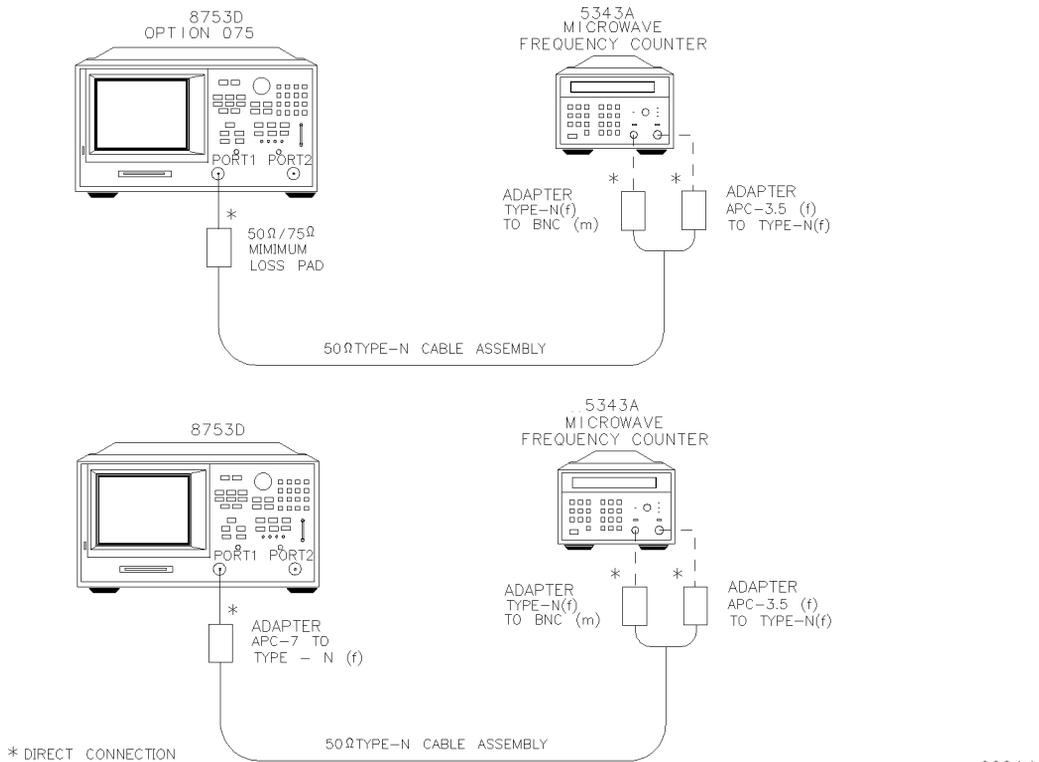

Figure 4-1. Test Port Output Frequency Range and Accuracy Test Setup
- 1** Connect the equipment as shown in Figure 4-1.